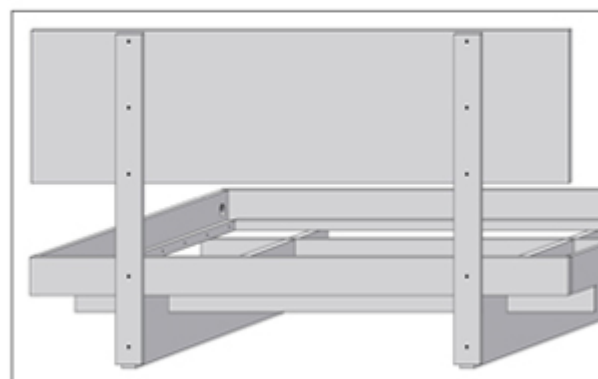

Figure 4
9. Connect the headboard to the bed by inserting short, dark Allen screws through the rails into the back of the lower headboard rail. (Figure 4)